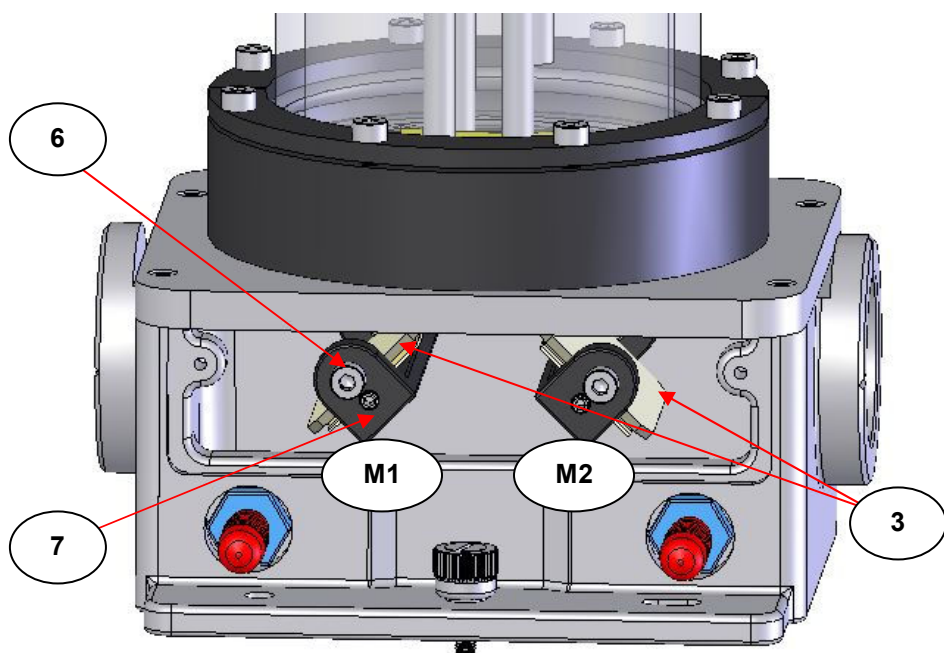

Fig 6. Tornado™ Gas Cell Optical Unit with Cover Plate Removed
The transfer optical unit (1) is a simple system of two mirrors to deflect the source beam into and collect from the gas cell, and then to deflect it to the detector. Fig 6. shows the optical unit (1) with cover plate (4) removed and the internal mirrors (3) on their adjustable mirror carriage assemblies (M1 and M2). The mirror carriage assemblies have two screw fixings. The M4 x 5mm cap head screw (6) is used to rotate the mirror (3) surface. The M4 x 12mm grubscrew with cone point (7) is used to tilt the mirror (3) surface.
For an alignment procedure the actual configuration of the build of Tornado™ gas cell for the infrared beam direction through the sample compartment determines which mirror carriage assembly (M1 or M2) becomes the output mirror (3). Looking from the front of the spectrometer the source of light to detector can pass from a left to right (LR) or right to left (RL) direction. From Fig 6. for use in a spectrometer with LR beam direction, M2 becomes the output mirror (3). For a RL beam direction M1 becomes the output mirror (3).